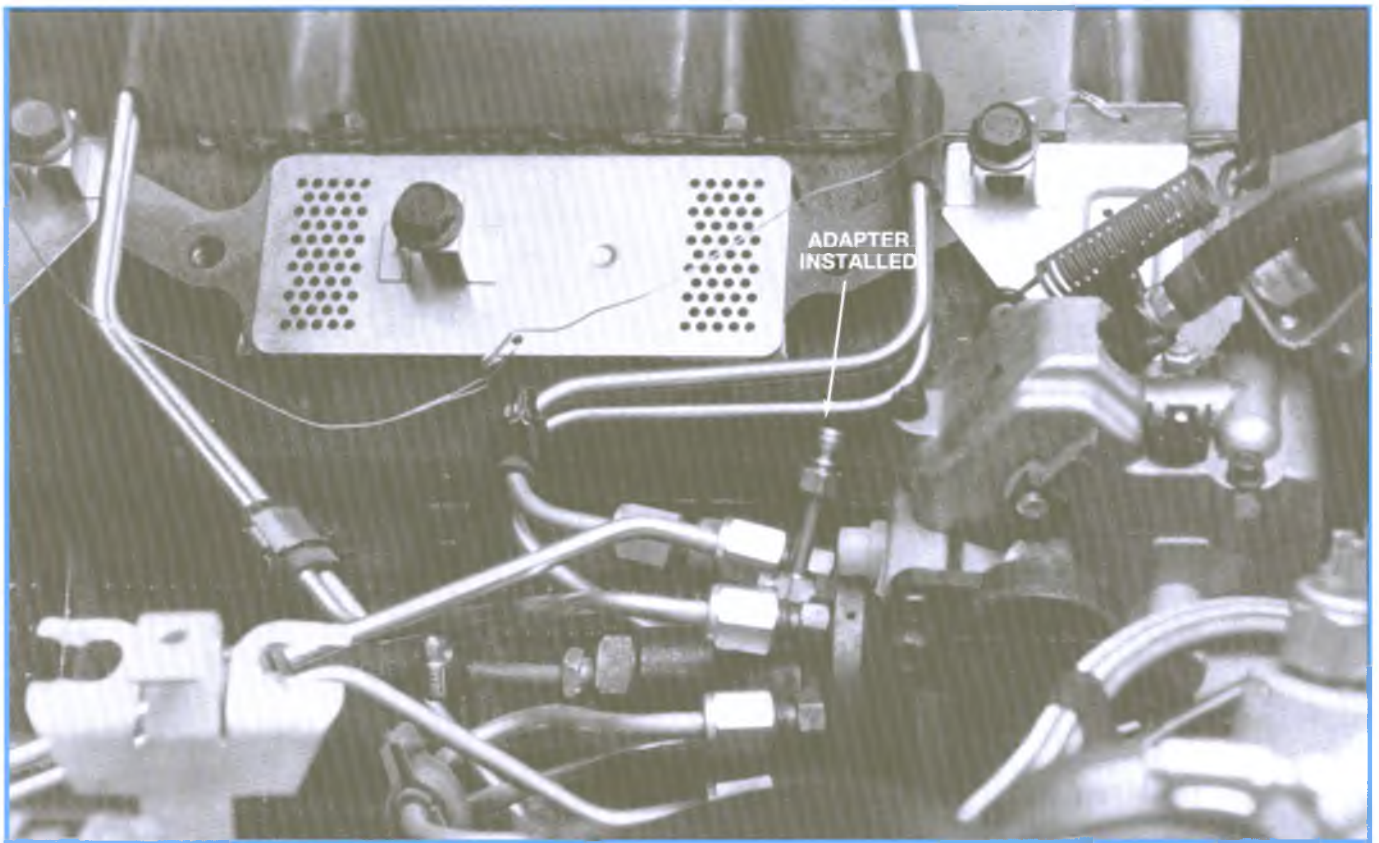

Figure 7-73, Transfer Pump Pressure Adaptor Installation
2. Install the transfer pump pressure test adaptor in the head of the injection pump (see Figure 7-73).